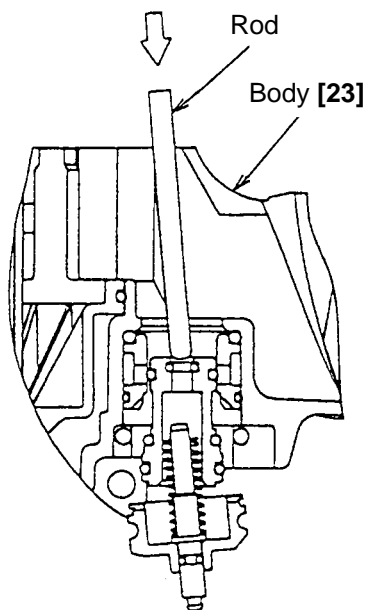

Fig. 18
- ① Remove the Exhaust Cover [7] in accordance with the procedure of 2.2 (1) on the previous page.
- ② Insert a thin rod into the Body [23] through the top hole and push the top surface of Valve Piston (B) [70] as shown in Fig. 18. Then the parts forming the control valve section except Valve Bushing (B) [67], O-ring (S-18) [68] and Head Valve O-ring (I.D 16.8) [66] can be taken out.